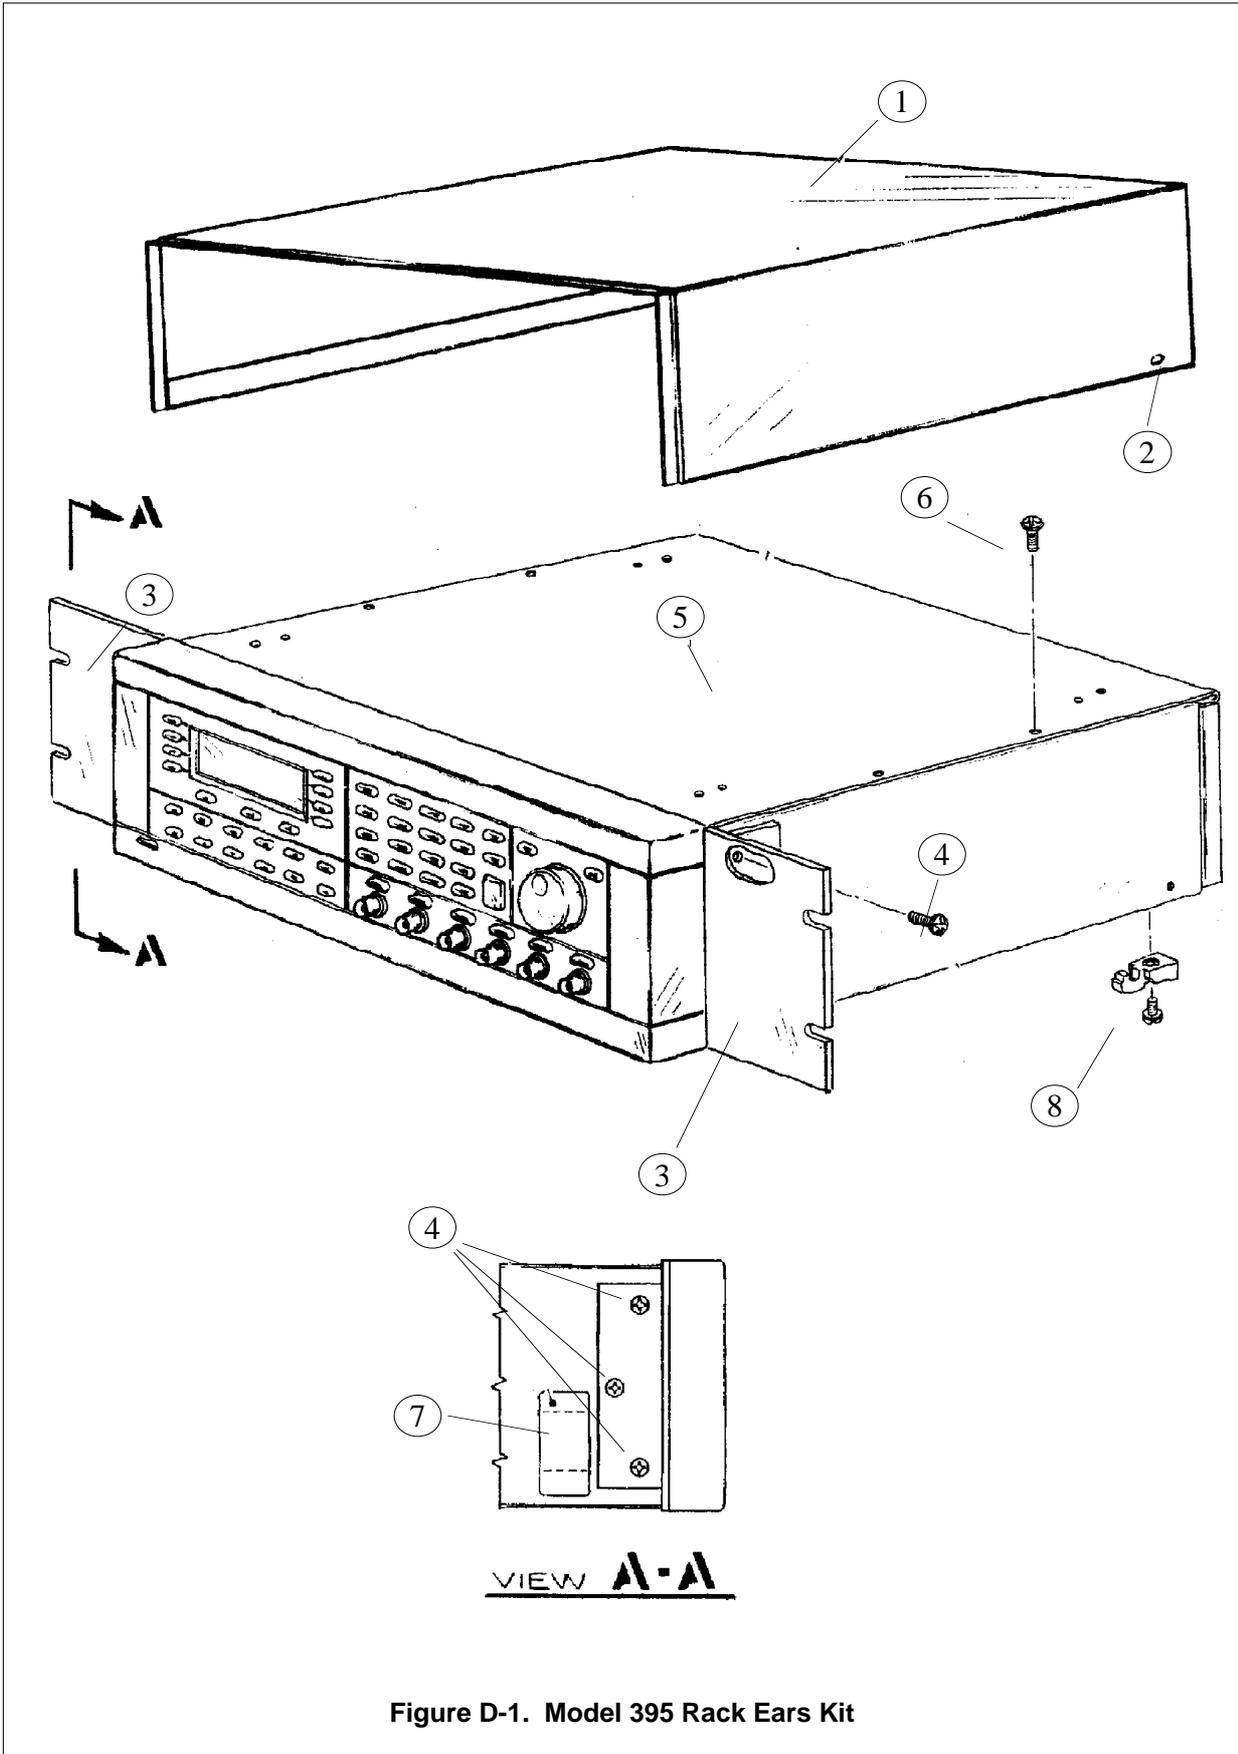

Figure D-1. Model 395 Rack Ears Kit
Refer to Figure D-1 Model 395 Rack Adapter Ears on the following page while performing these step-by-step instructions.
1. Install the new top cover (item 5) using four 6-32 x 1/4 screws (item 6).
2. Mount the Rack Ears (item 3, two places) as shown in figure D-1 using six 10-32 x 1/2 screws (three per side).
3. Remove the adhesive backing from the cover plate, and Install the cover plate (item 7) over the hole shown in View A-A.